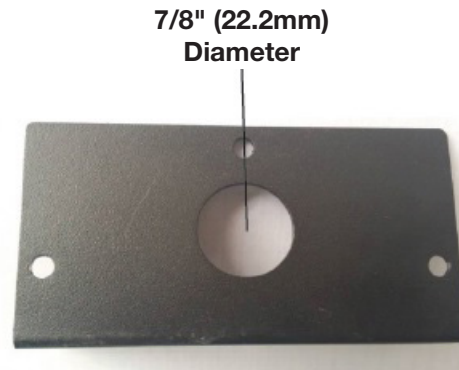

Fig. 2
- Punch out the 7/8" (22.2mm) hole in the new cover plate (supplied) (**Fig. 2**) and install a box connector into the junction box. Snap the box connector clamp onto the supply wires.